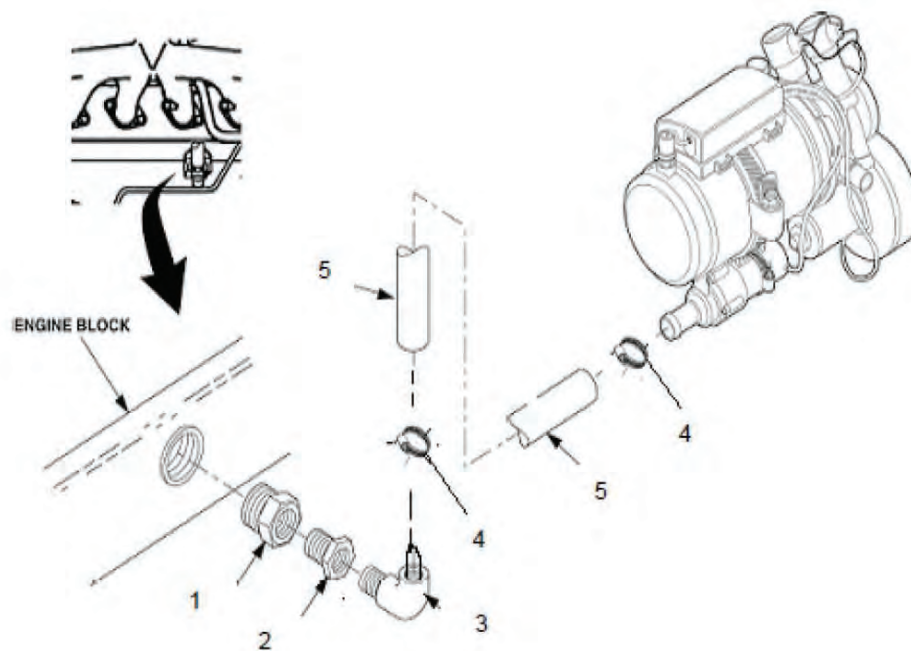

Figure 3. Coolant Inlet Hose Removal.
9. Remove clamps (Figure 3, Item 4) and coolant hose (5) from heater coolant pump. Remove adapter (1), bushing (2), and elbow 90° extension (3) from engine block and install new expansion plug in engine block hole.